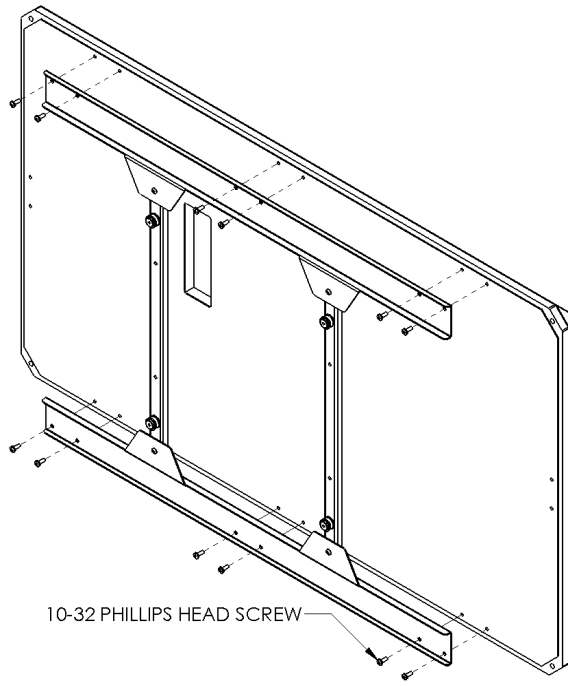

Figure 4
3. Using the 10-32 Phillips head screws attach the bracket to the back of the panel. (see Figure 4)